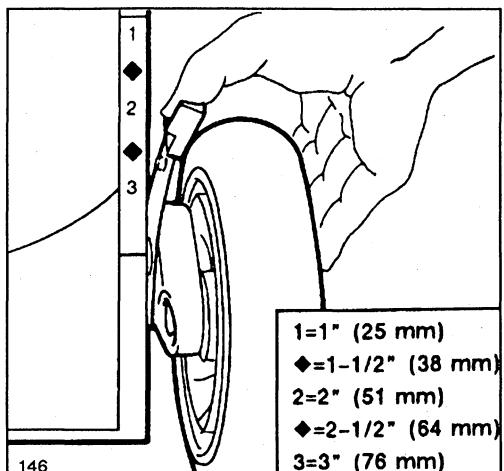

Figure 10
2. For easier adjustment, lift housing up so wheel is off ground. **Do not place hands under deck to lift housing.** Squeeze adjusting lever toward wheel and move to desired setting (Fig. 10). Ensure pin on adjusting lever engages notch in housing. Adjust all wheels to the same setting.